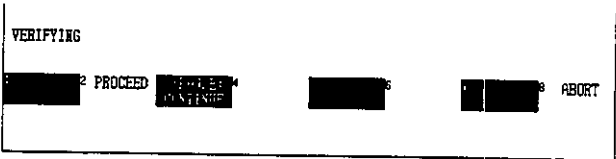

Figure 6.354
Note (1) If Stop is selected while the comparison is in progress, the process will stop temporarily and the screen shown in *Figure 6.354* will be displayed.